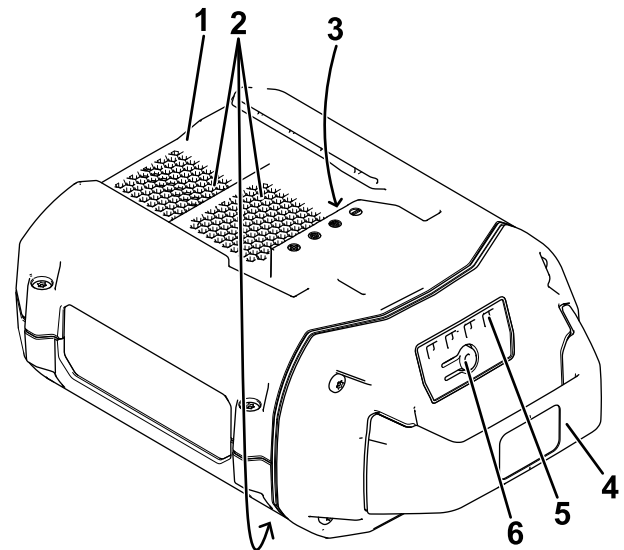

Figure 15
2. Line up the cavity in the battery pack (Figure 15) with the tongue on the charger.